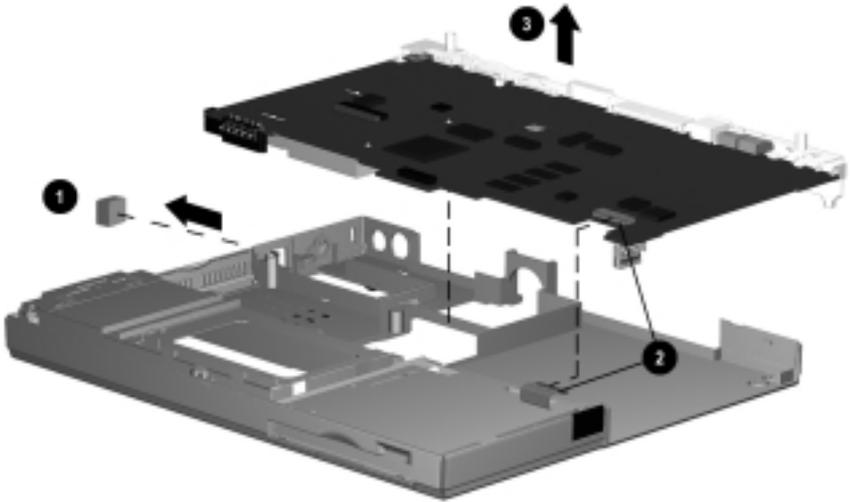

Figure 5-32. *Removing the System Board*
5. If installed, remove the RJ11 cover from the left side of the computer ❶ (Figure 5-32).
6. Disconnect the diskette drive LIF (low insertion force) cable from the system board ❷.
7. Remove the system board from of the base assembly ❸.